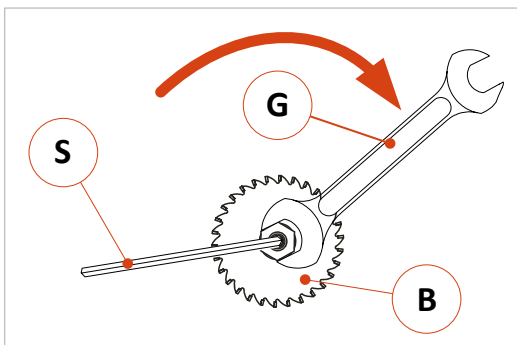

Figure 34: Inserting a scoring saw blade
- **Important:** Note the direction of rotation (counter-clockwise) of the scoring saw blade (B) → The teeth must point to the left when viewed from the front of the machine (see ⇒ Figure 34).
- Screw the clamping nut (M) onto the scoring saw shaft by turning it clockwise (see arrow direction in ⇒ Figure 34).
- Fix the scoring saw shaft (A) with an SW 8 pin spanner (S) and tighten the scoring saw blade well using the SW 36 open-end spanner (G), see ⇒ Figure 34.